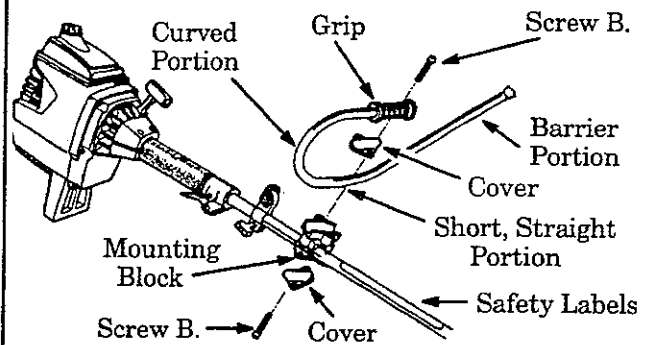

Figure 3
1. Position the mounting block on the tube above the arrow on the safety labels. Figure 3 .
2. Place one of the covers under the tube. Figure 3 . Attach the cover to the mounting block with 2 screws "B."; finger tighten only.
3. Align the handlebar with the straight barrier portion to the left and the curved portion to the right as shown in Figure 3 .
5. Place the other cover on top of the tube. Figure 3 . Attach the cover to the mounting block with 2 screws "B."; finger tighten only.
The barrier portion of the handlebar must be installed as shown in Figure 3 to provide a barrier between operator and spinning blade.